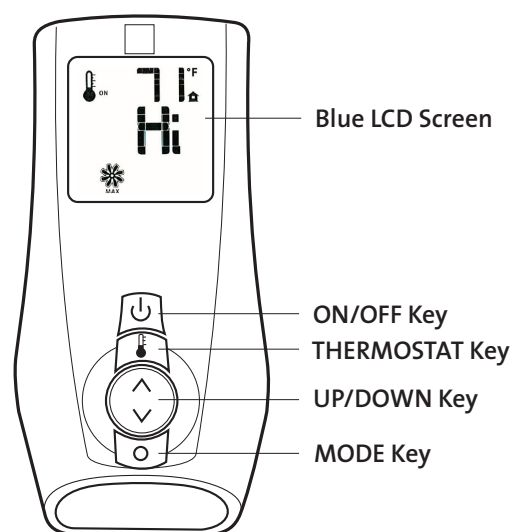
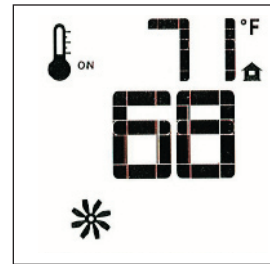

Figure 40. Remote transmitter function keys.
Figure 52. Fan Mode
The Transmitter features a simple button layout and informative display screen. See fig. 40.
- To activate this function, press the Thermostat Key, (Fig. 40.) The display will indicate that the room thermostat is "ON" and the current Set Temperature is now displayed. Fig. 48.
- Fan speed can be adjusted through six settings. To activate this function, press the Mode Key (Fig. 40) to index to the Fan Control icon. See fig. 52.